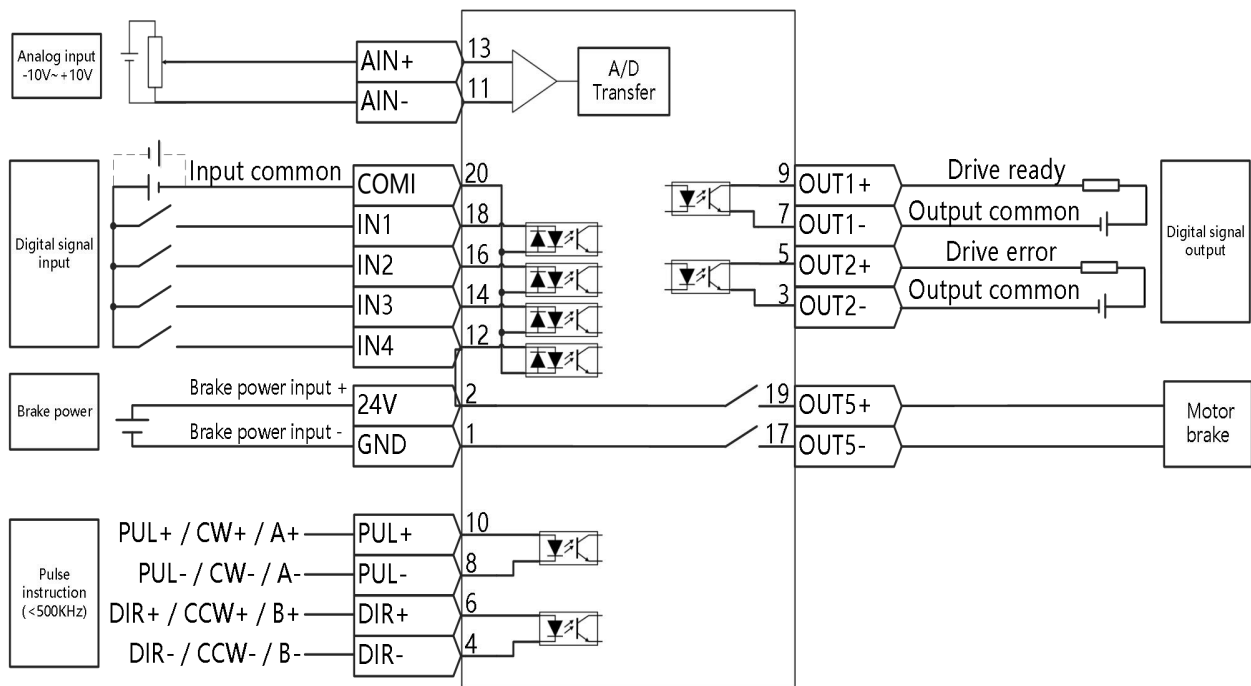
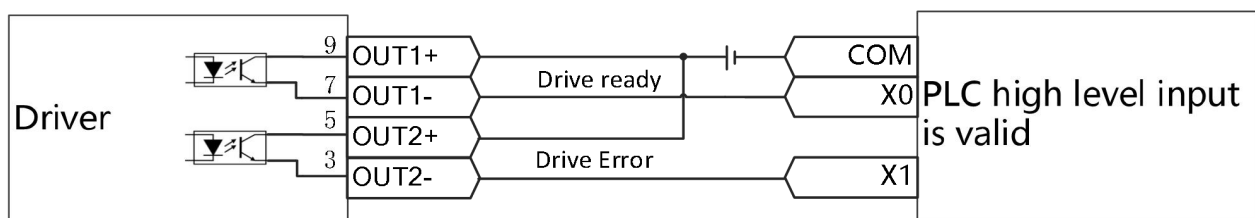

Fig. 3-3 Wiring Diagram of External I/O Outlet
Fig. 3-4 PNP wiring diagram of the output port
- Fig. 3-3 Output outlet is NPN connection mode, while PNP connection mode is shown in Fig. 3-4.